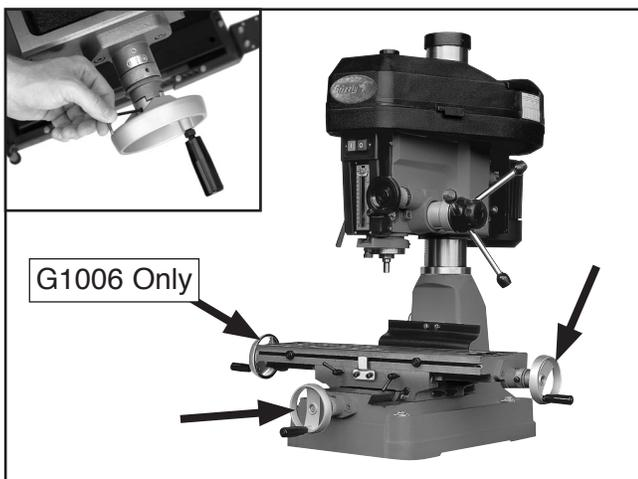

Figure 17. Handwheel installation.
3. Secure one handwheel in each of the locations shown by sliding the handwheel onto the leadscrew and tightening the set screw (**Figure 17**).